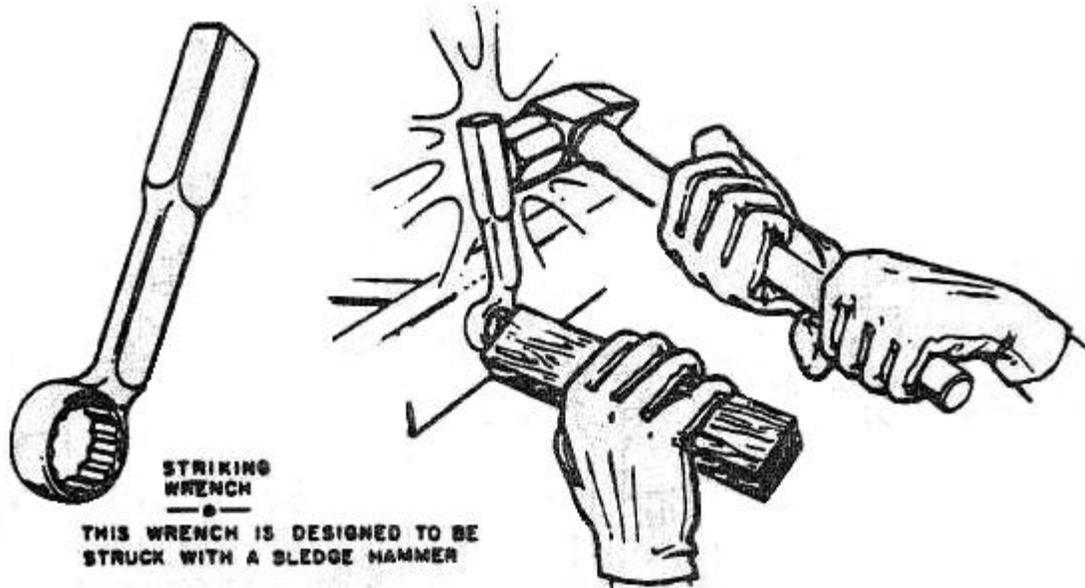

Figure 8-24. Sledging Wrench
- Sledges are used for heavy work, where great force is needed, such as: slug wrench applications, driving stakes or breaking up rock. (See Figure 8-24.)
Never hammer a common wrench. However there is one type of box wrench made for this purpose. These wrenches are heavy and strongly made. The handle is short and has a pad on which the hammer blows are struck. These box wrenches are known as "hammer" or "striking" wrenches. These wrenches are especially useful on large size nuts. See Figure 8-24.